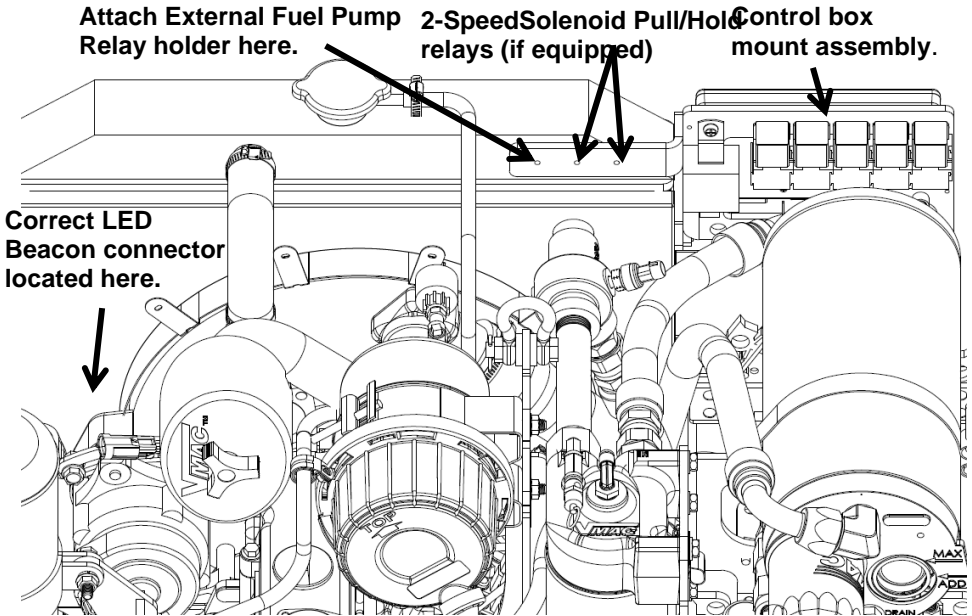

Figure 2-MF Overview
5. Slide and attach the External Fuel Pump Relay holder beside the Throttle Pull Relay (If Equipped). Fasten the relay holders with the bolts, positioning the External Fuel Pump Relay as indicated in Figure 2.